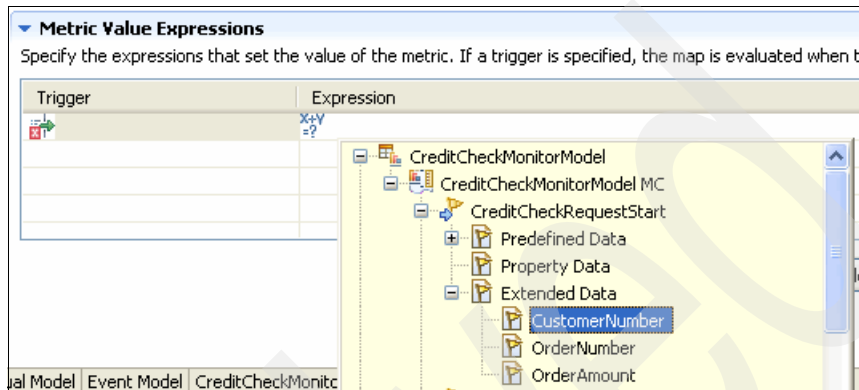

Figure 10-51 Metric Value Expressions builder
- b. Click in the Expression column and press Ctrl+Spacebar to be prompted with an expression builder, as shown in Figure 10-51. Expand **CreditCheckMonitorModel** → **CreditCheckMonitorModel MC** → **CreditCheckRequestStart** → **Extended Data** and select **CustomerNumber**.